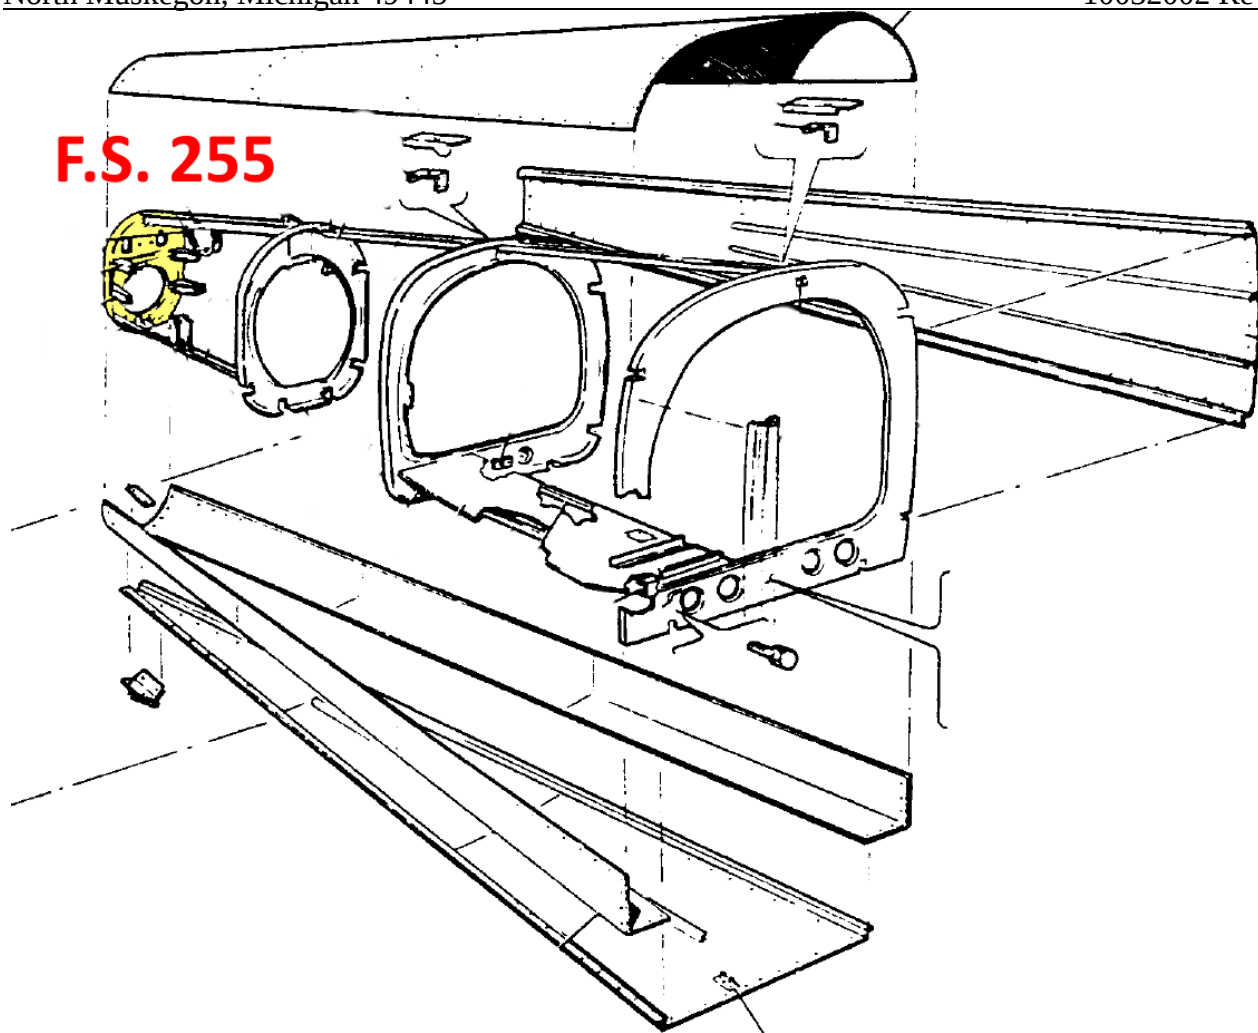

FIGURE 3-1 PITCH INSTALLATION LOCATION F.S. 255
- 3.3 Remove interior and exterior panels to gain access to F.S. 255 for pitch installation. Reference Figure 3-1 and Item #4 in Figure 3-2.